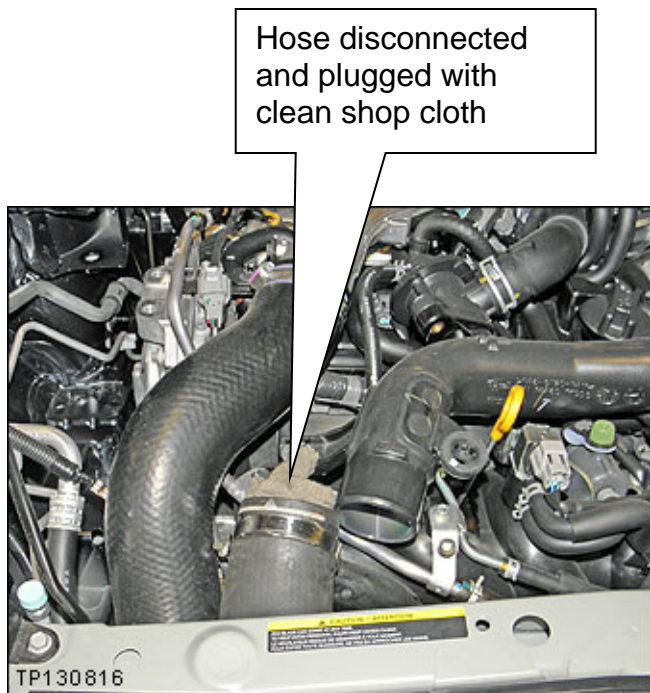

Figure 21
26. Remove the engine cover and disconnect the intercooler hose as shown in Figure 21.